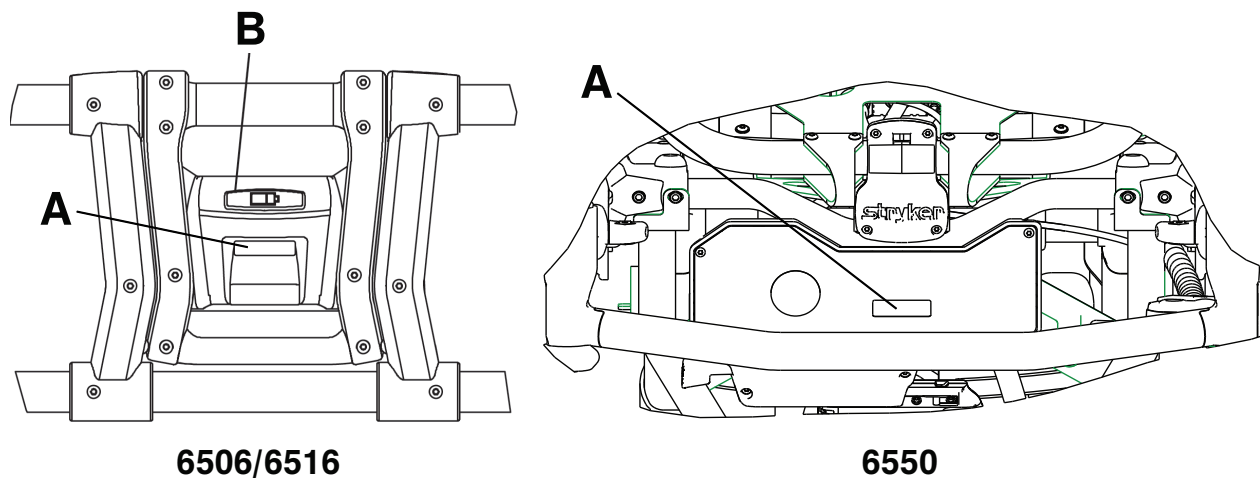

Figure 12 – Checking the hour meter (A), error display (A), and battery status (B)
Use the hour meter (A) (Figure 12) to determine the frequency of preventive maintenance. Use the error display (A) for troubleshooting. The error display overrides the hour meter display when an error occurs.